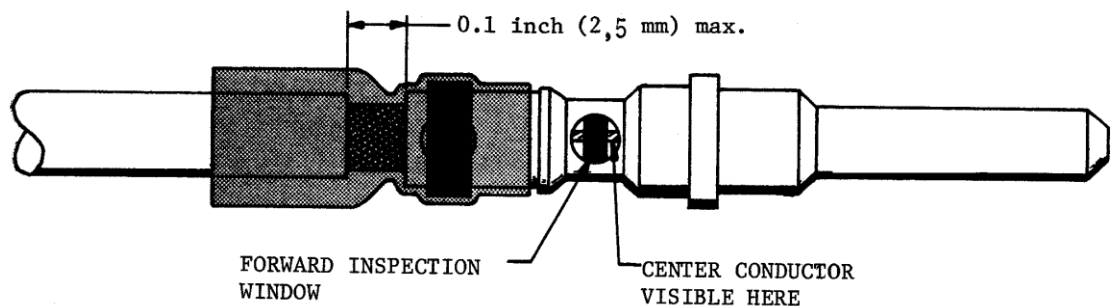

FIGURE 5. PROPER INSERTION INSPECTION
- (2) Inspect for proper insertion (see Figure. 5).